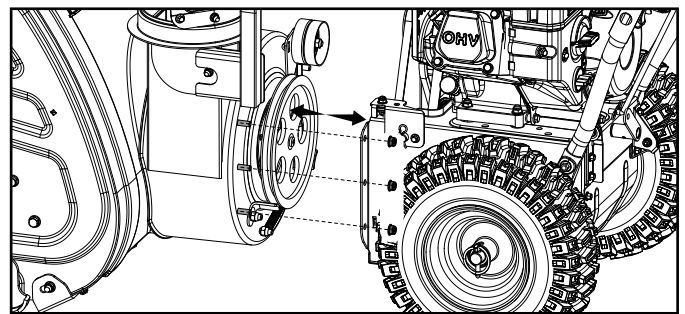

Figure 43
6. Unscrew six M8 nuts to separate the auger housing from the base (Fig. 43).